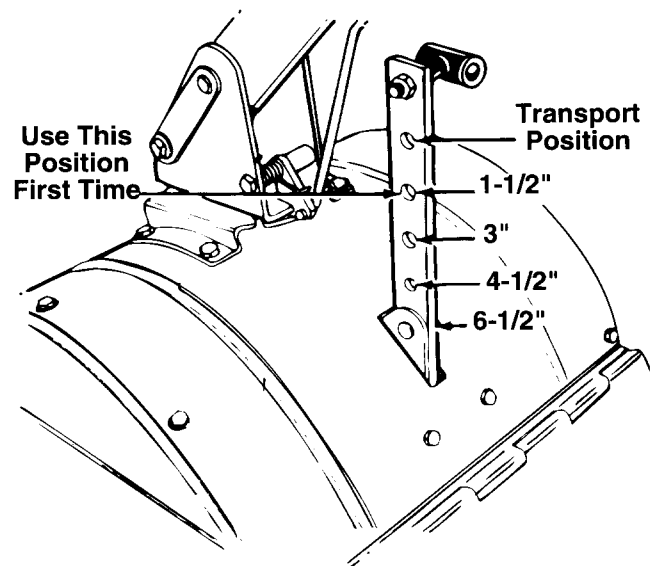
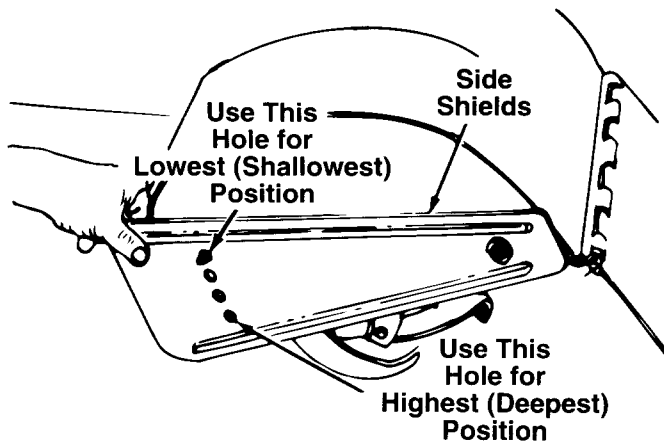

FIGURE 18.
FIGURE 19.
WARNING: When operating the tiller for the first time, use the depth bar setting that gives 1-1/2 inches of tilling depth (second hole from the top). Refer to figure 18.
Tilling depth is controlled by the depth bar which can be adjusted to five different settings. See figure 18. Adjust the side shields as shown in figure 19, as you adjust the depth bar. Be certain spark plug wire is disconnected and grounded against the engine.
1. When using the tiller for the first time, use the second adjustment hole from the top (1-1/2" of tilling depth). See figure 18.
To adjust the depth bar, remove the clevis pin and hairpin clip. See figure 18. Move the depth bar to the desired setting.
To adjust the side shields, remove the hex nut and belleville washer from the front and loosen the rear nut. See figure 19. Pivot the side shield to the desired position. Replace hex nut and belleville washer. Tighten securely.